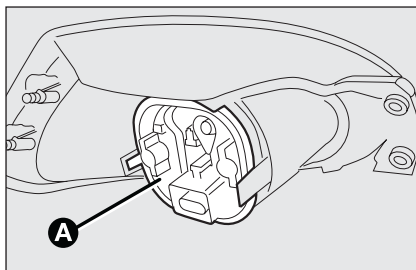

fig. 29
- disconnect the electric connector and remove the protective cover **A-fig. 29** pressing the three catches and replace the burnt out bulb.